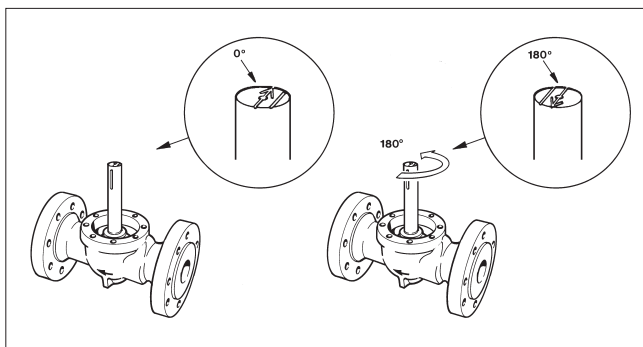

Fig. 10 Turning the ball
- Turn the valve ball 180 degrees from the CLOSED position, see Fig. 10.